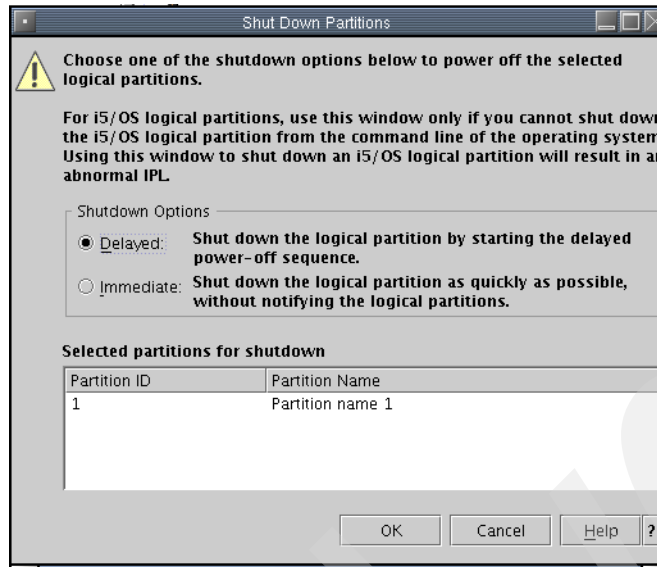

Figure 6-21 Partition shutdown options
2. Select **Shut Down Partitions**. A dialog like the one in Figure 6-21 is shown.
- After selecting the desired shutdown type, press **OK** to start the shutdown process. See Figure 6-21.